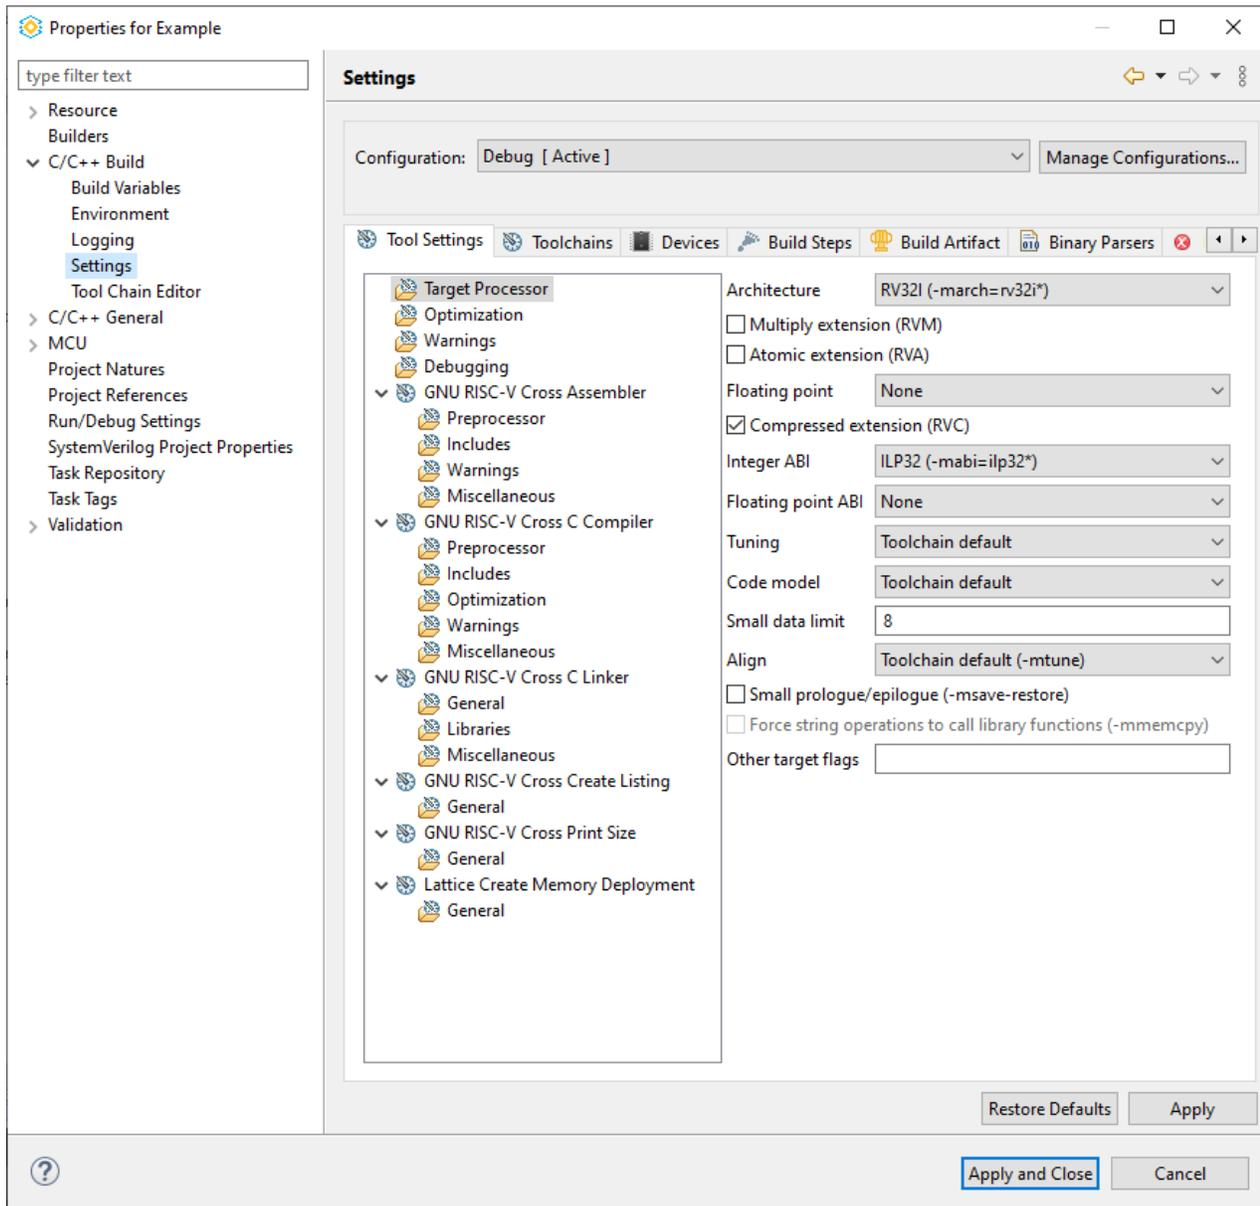

Figure 3.27. Properties of C/C++ Project
2. Choose **Project > Properties**. The Properties for current project opens (Figure 3.27).